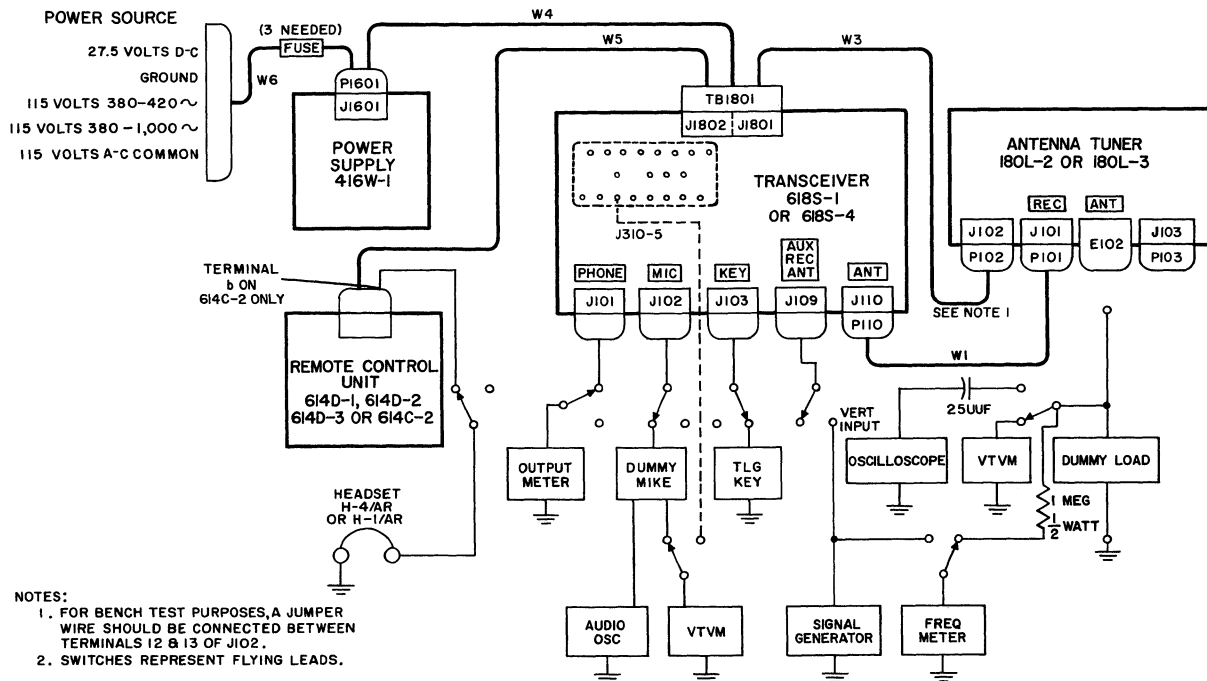

Figure 2-2. Transceiver 618S-1, Bench Test Setup
Connect all components to be tested to a test bench harness which is wired for use with one of the Remote Control Units. A typical test bench setup for Transceiver 618S-1 and its associated system components is illustrated by block diagram in figure 2-2. Table 5-1 lists test equipment required for testing of Transceiver 618S-1. Perform the following operations:
- Connect the dummy microphone, audio oscillator, and vtvm between J102 and ground, as illustrated in figure 2-2.
b. Connect the dummy load, vtvm, the 1-megohm resistor, and frequency meter to E102 as illustrated in figure 2-2. All other test equipment should be disconnected at this time.
a. Connect the dummy microphone circuit to J102 on the front panel of Transceiver 618S-1. Refer to figures 2-2 and 2-3.